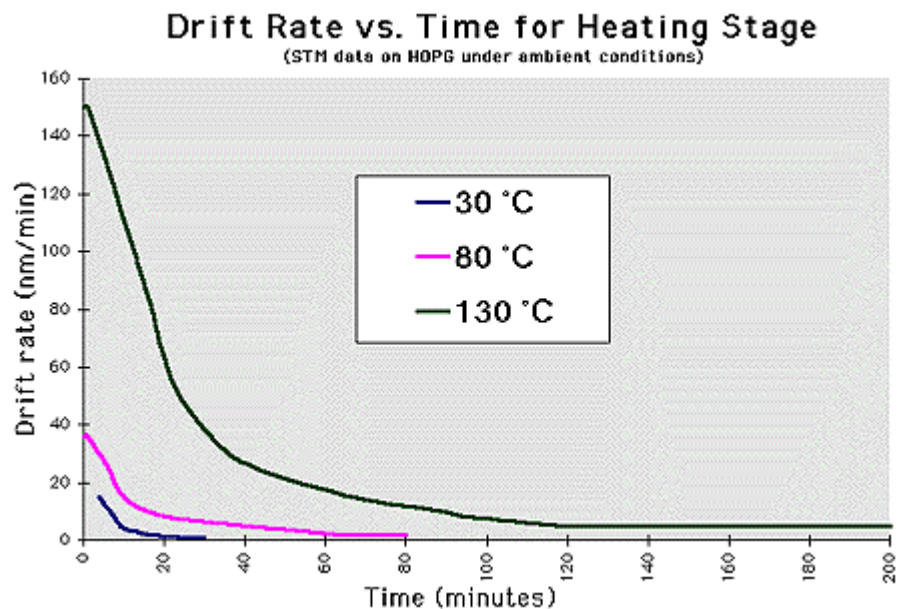

Figure 5
8. Once the temperature has stabilized, engage the microscope as previously described and start scanning. If the temperature has not stabilized, the signal will continue to drift due to thermal expansion. The graph below in Figure 5 shows a set of data for several temperature jumps from room temperature 23 °C, zero on the time axis corresponds to the time the sample reached the setpoint temperature.